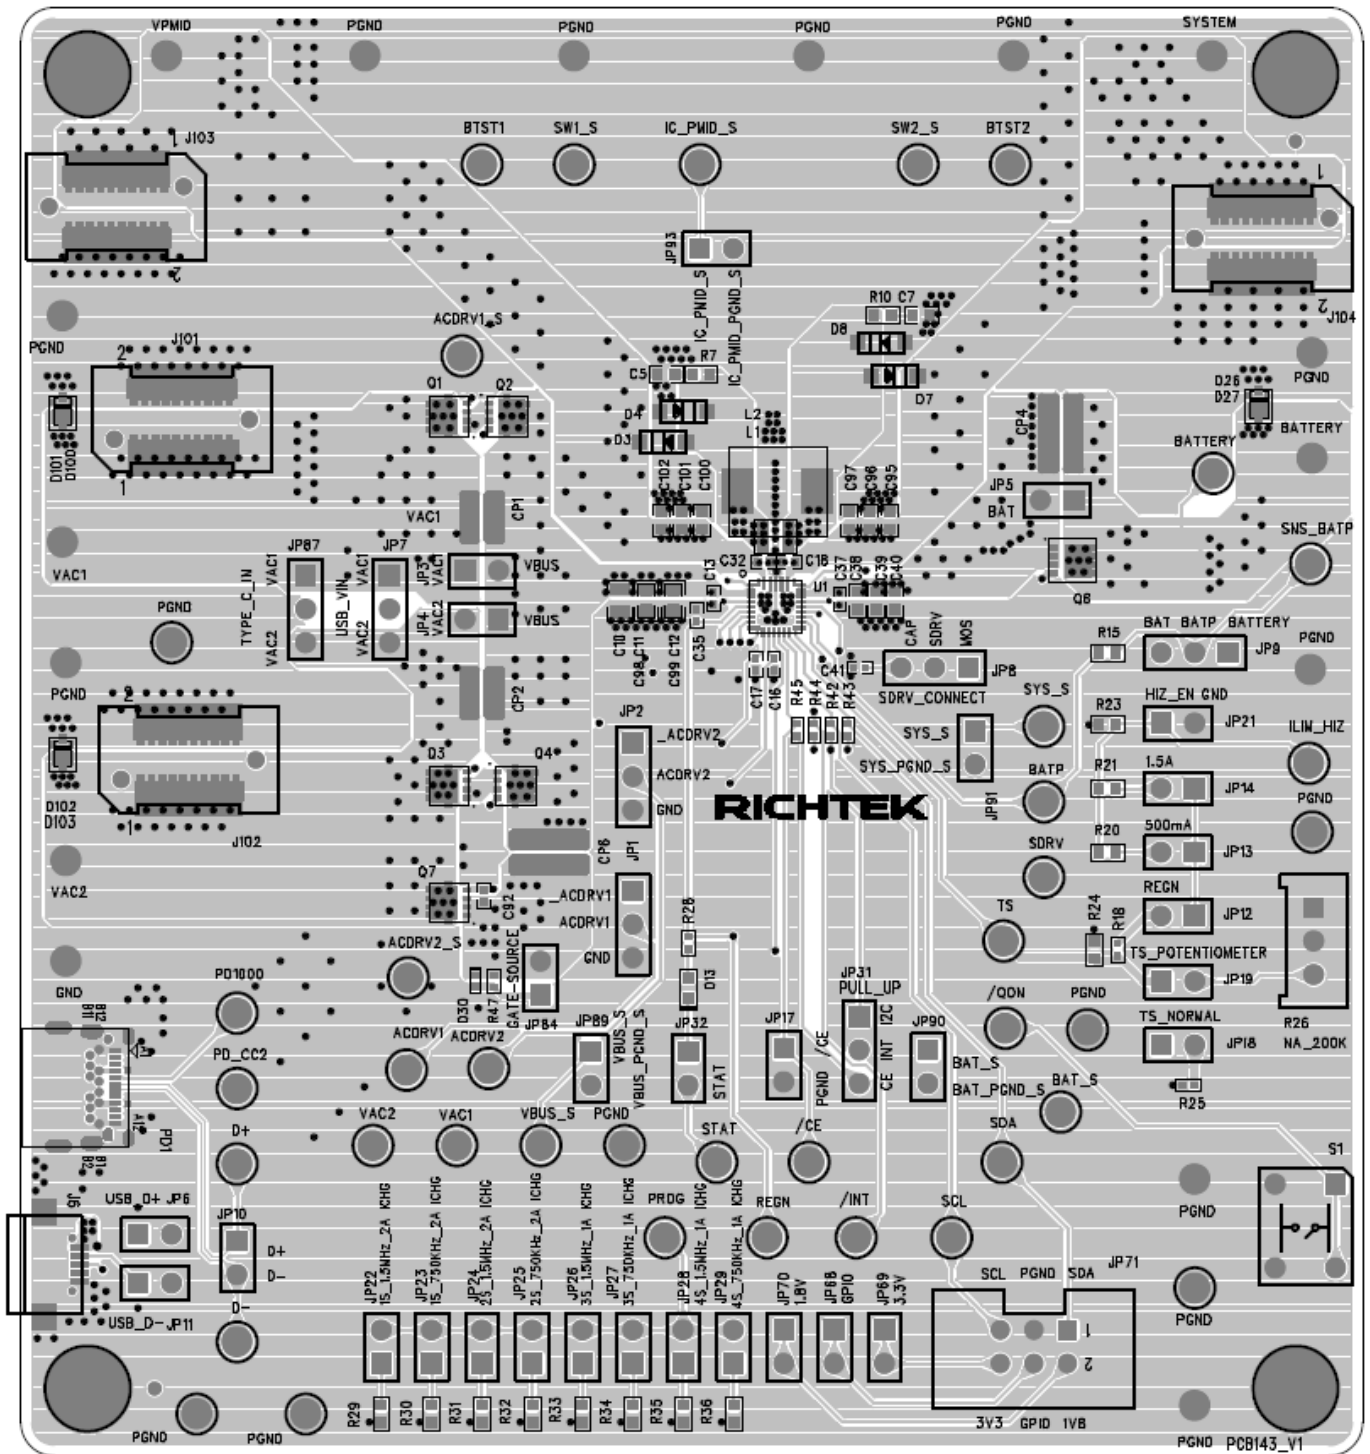
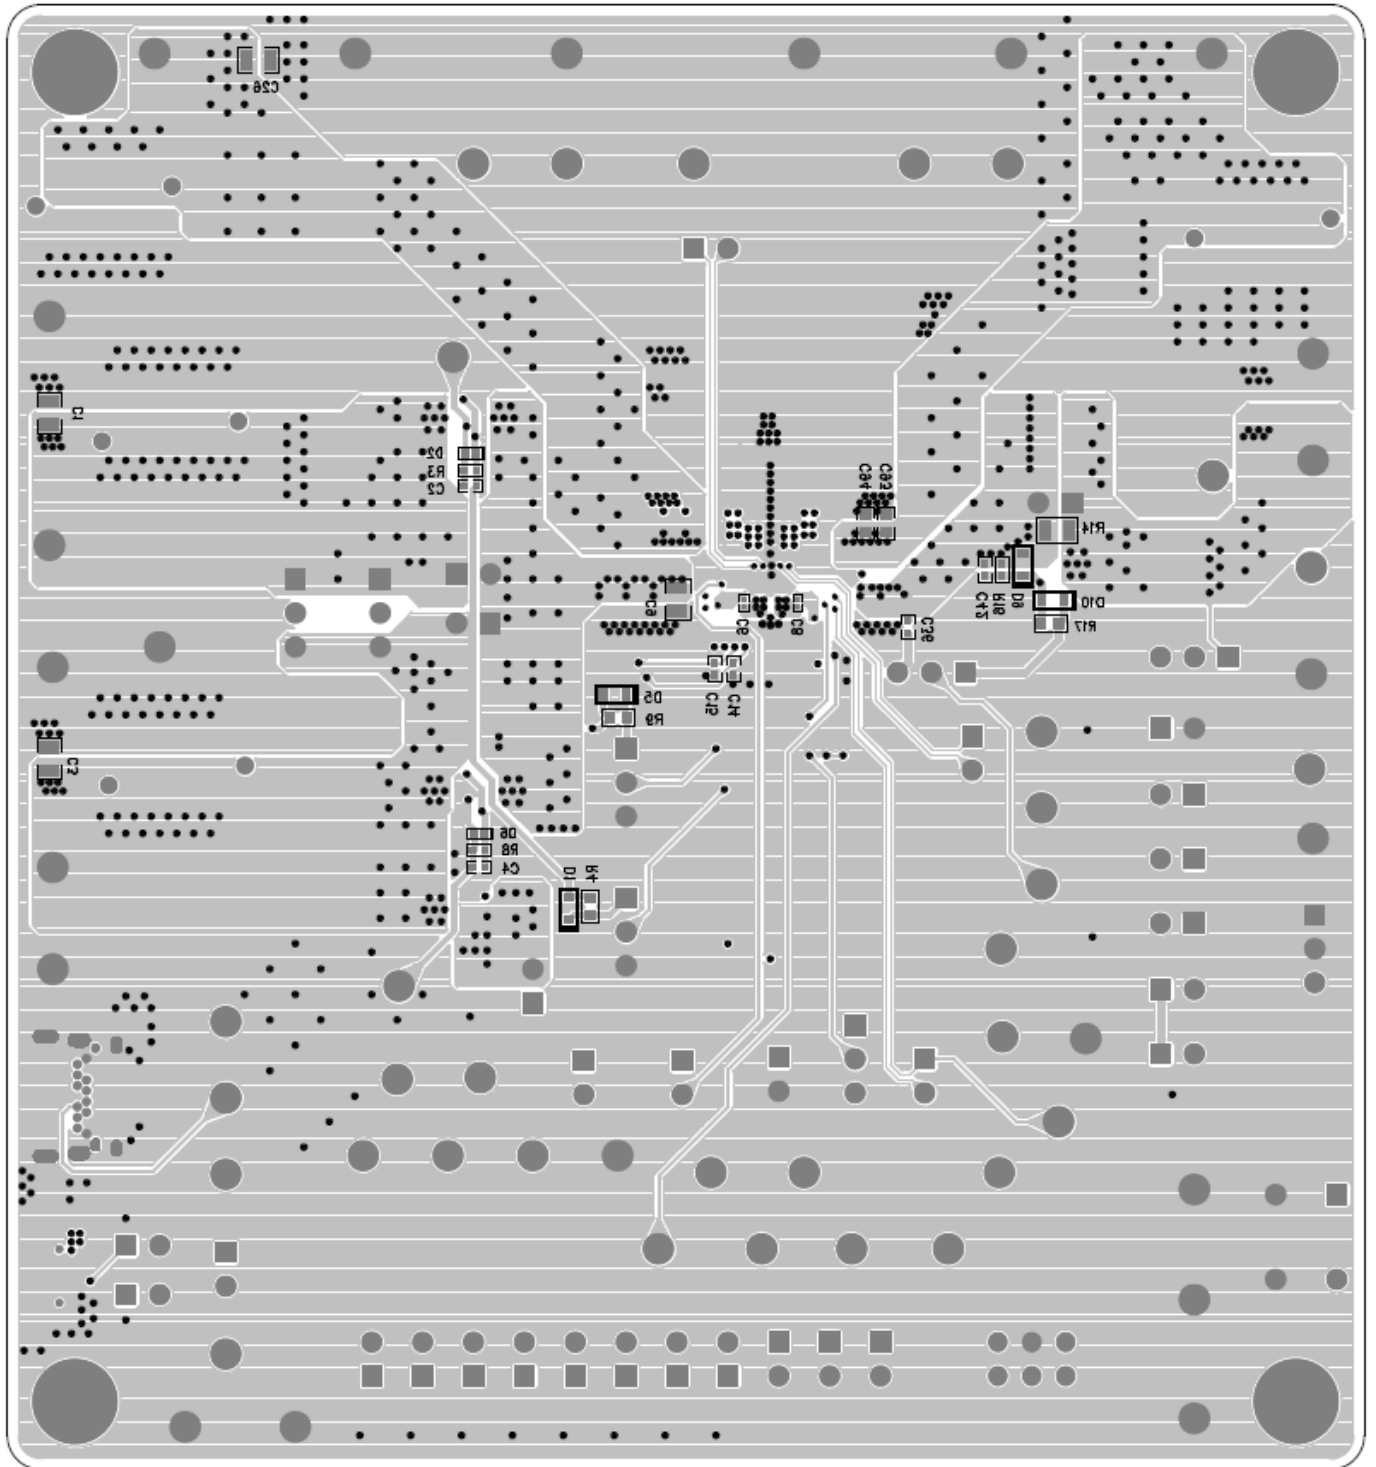

Figure 1. Top View (1st layer)
Figure 4. Bottom View (4th Layer)
Figure 1 to Figure 4 are RT9492GQVF(2) Evaluation Board layout. This board size is 101.6mm x 109.7mm and is constructed on four-layer PCB, outer layers with 1 oz. Cu and inner layers with 1 oz. Cu.